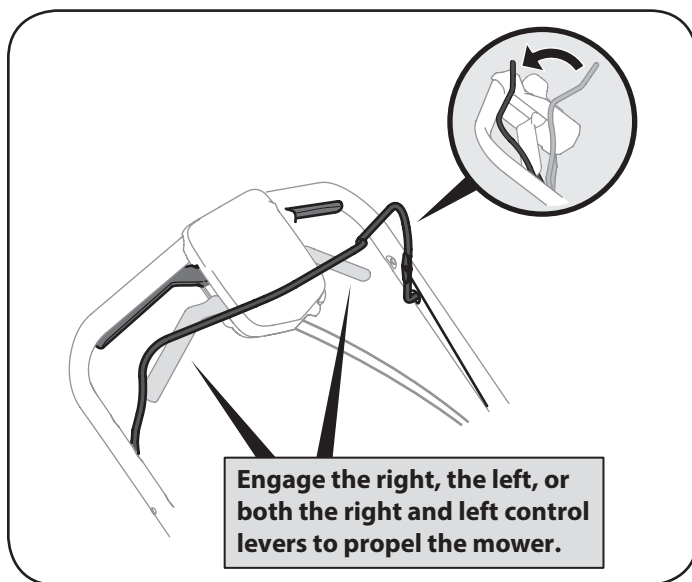

Figure 15
1. Once the engine is running and while continuing to hold the blade control down, squeeze either (or both) drive controls against the upper handle to propel mower. See Figure 15.